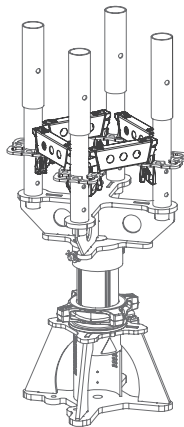

Fig. A1.04b
3. Connect Base Standards UVB (3) to Horizontal Ledgers UH-2 25 (4). Secure the wedges. (Fig. A1.04b)